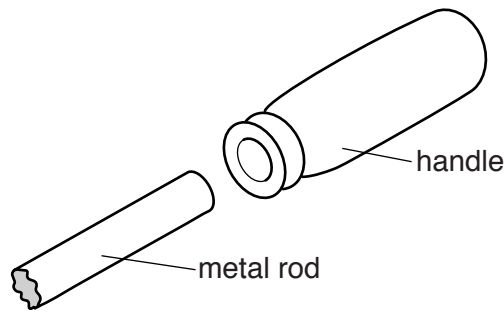

Fig. 11
- (b) (i) Fig. 11 shows a metal rod that will be attached to a wooden handle by means of an epoxy resin adhesive.